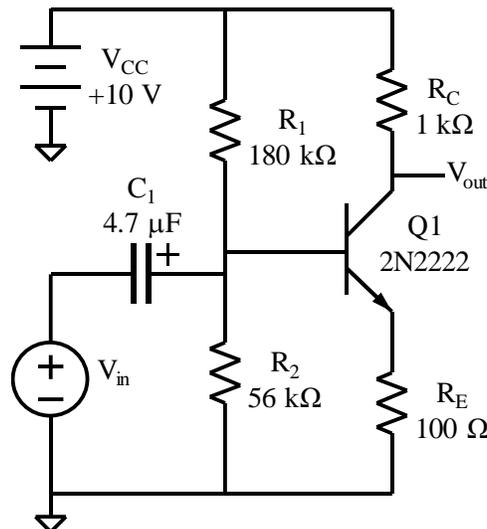

Fig. 2. Common-emitter amplifier with emitter resistor.
3. Consider the circuit in Fig. 2.
CE, with $R_E$ , Fig. 2
The CE amplifier in Fig. 2 has a voltage gain transfer function